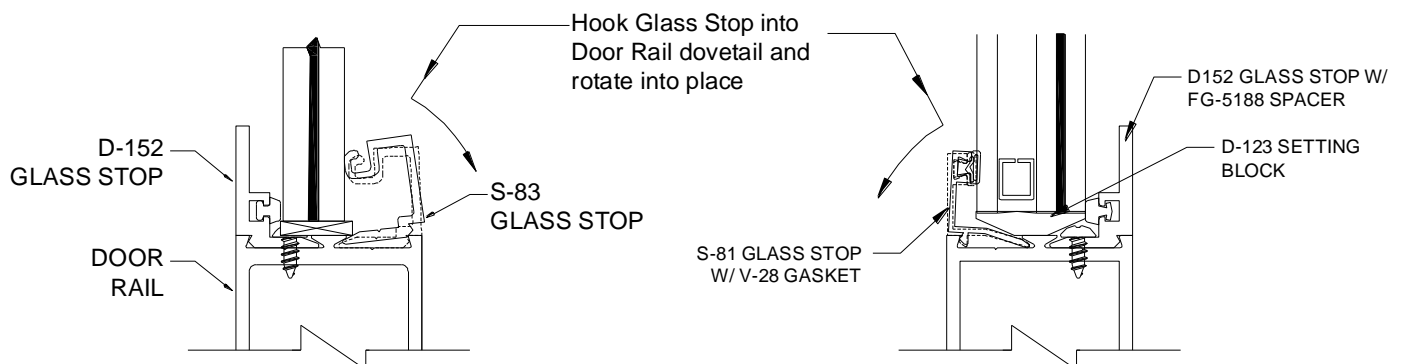

Figure 40: Installing S-81 and S-83 Glass Stop
13.4.4 Install the **S-81** or **S-83** Glass Stop into the Door Rail. Hook the stop into the dovetail on the Rail and snap into place, as shown in Figure 40.